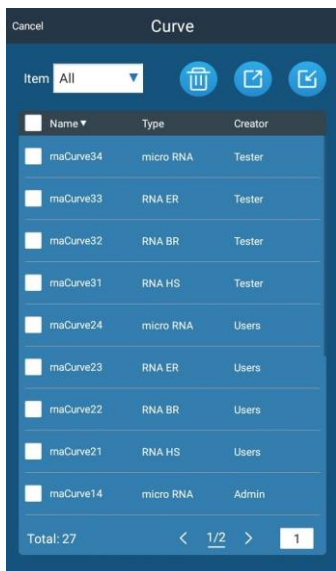

Fig 5.6.04 Curve Management Interface
From the Standard Curve Interface Click  to enter Curve Management Interface (Fig. 5.6.04).
- : Export the selected curve(s) to a USB drive (Fig 5.6.04).